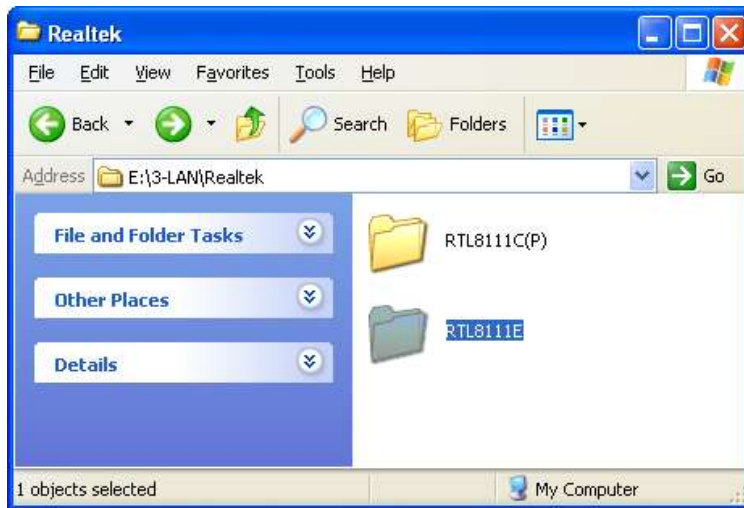

Figure 7-14: LAN Driver
Step 3: A new window opens. (Figure 7-14)
Step 4: Double-click the RTL811E folder (Figure 7-14).